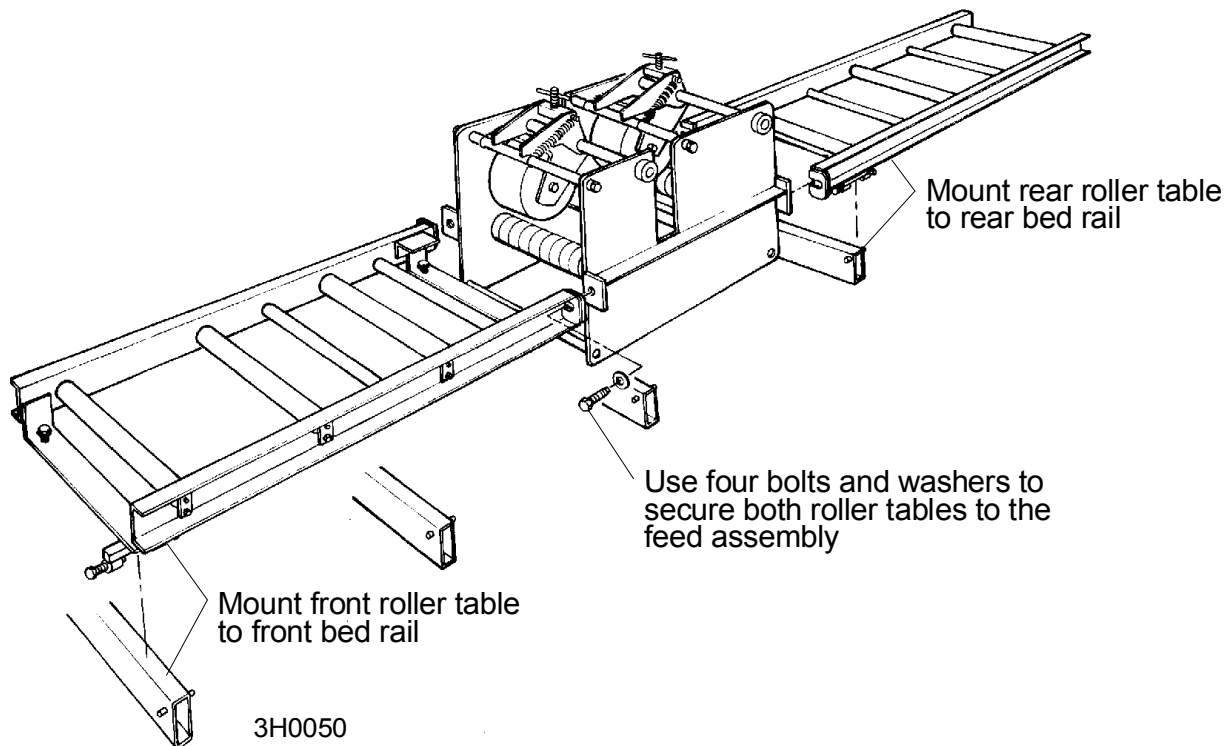

FIG. 1-20
See **Figure 1-20**. The two roller table assemblies each have mounting brackets on the bottom.
6. Make sure the two support adjustment bolts on the front table assembly do not touch the bed rails. Adjust if necessary. **See Figure 1-20.**